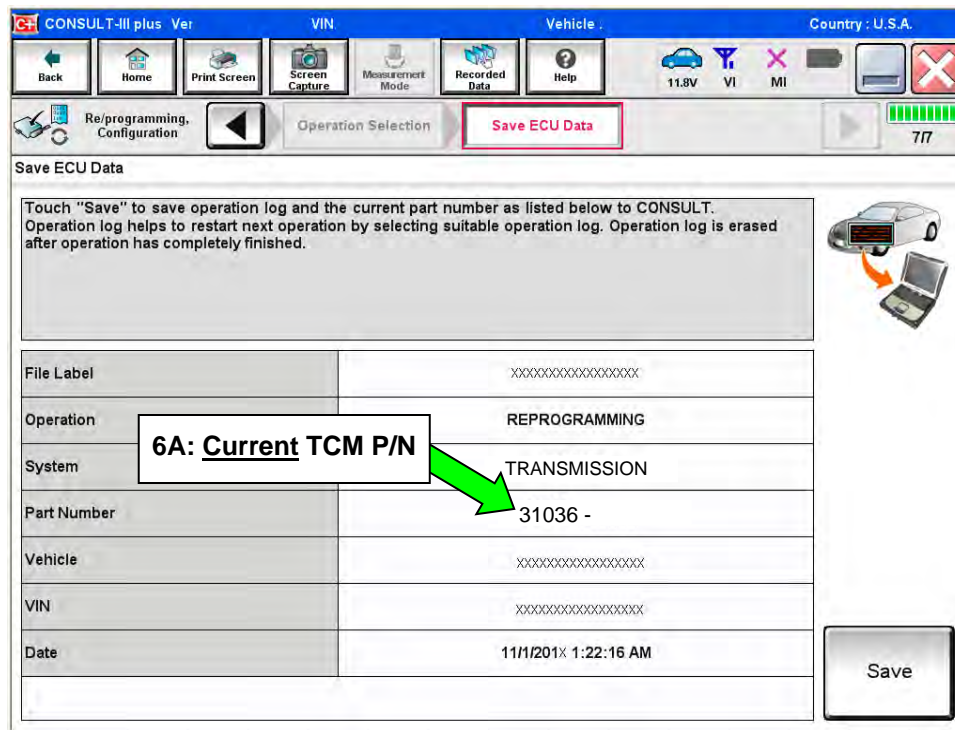

Figure 2K
5. Follow the on-screen instructions and navigate the C-III plus to the screen shown in Figure 2K on the next page.
6. When you get to the screen shown in Figure 2K, confirm reprogramming applies as follows.